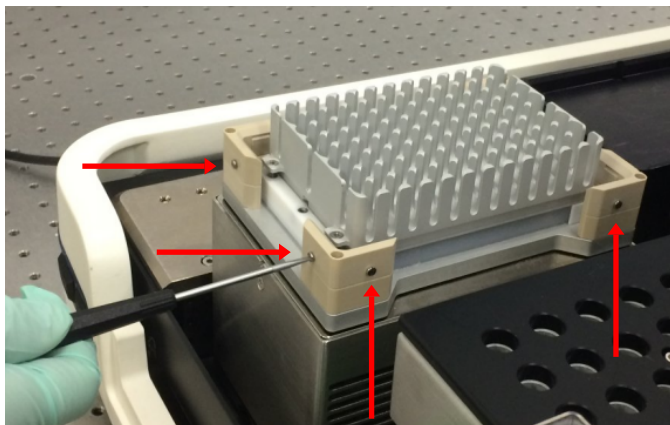

Figure 5 Grub screws on the Thermoshake device.
- ① Locations for the 3 screws to fasten the adapter plate to the ThermoShake device.
3. Using the slotted screwdriver, tighten the 8 grub screws, 2 at each corner, found at the top of the Thermoshake device (Figure 5).